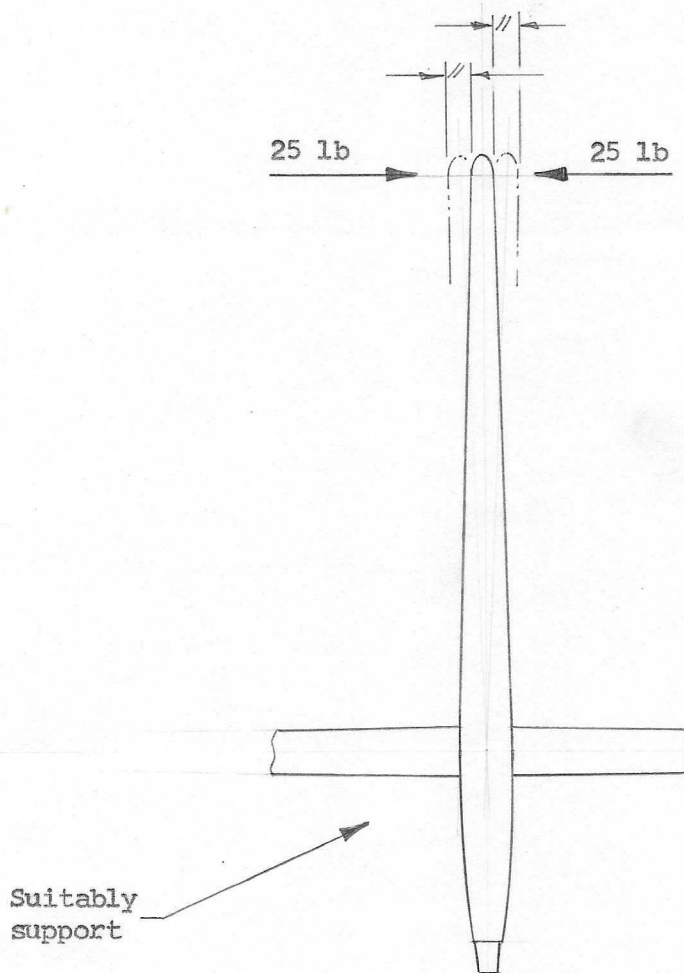

FIG. 2
- b) Apply an equal transverse load (approx. 25 lbs) ref. Fig.2 Sheet 4, alternatively in both directions to the top of the fin and check for equal movement each side. Also check for movement or noises in the affected areas, particularly on fin spar longeron connection. See Note 1.